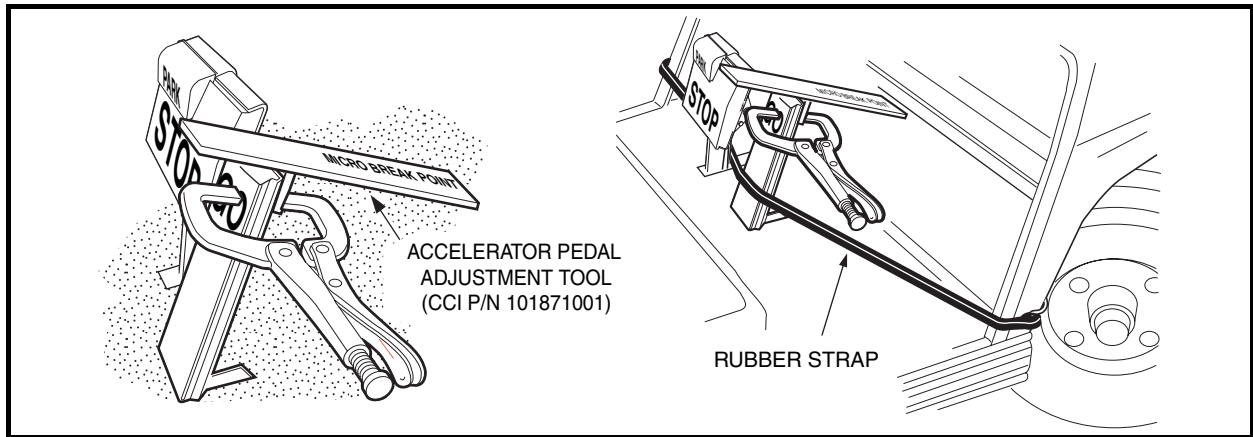

Figure 5-29 Accelerator Pedal Height Adjustment
- 4.1. Loosen the nut and bolt (**Figure 5-28, Page 5-18**) securing the accelerator pedal to the pivot plate. Clamp the accelerator pedal adjustment tool (CCI P/N 101871001) to the accelerator pedal, with the end marked accelerator pedal height closest to the floorboard. Press the accelerator pedal until the end of the tool rests against the floorboard; pedal height should be 5-5/8 inches (14.3 cm). Use a rubber strap to hold pedal in position against the floorboard and then tighten nut to 26 ft-lb (35.3 N·m) (**Figure 5-29, Page 5-19**).